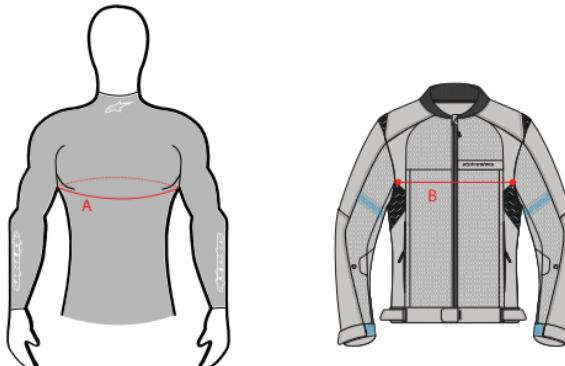

Figure 22: References for the Chest Circumference (A) and the Garment Chest Width (B) Measurements
IMPORTANT! The System shall be worn with any outer garment that meets the following criteria: measure the circumference of the chest (A) and the garment width on the chest region (B). The garment is compatible with the System if B is greater than A divided by 2 plus 16 cm ($B > 0.5 \times A + 16 \text{ cm}$ or $B > 0.5 \times A + 6,30 \text{ in}$) (Figure 22).